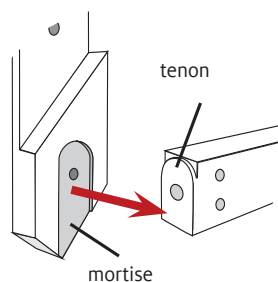

FIGURE 3: REAR LEG BRACE AND HEIGHT EXTENDER BLOCK
4. Attach the LO and RO height extender blocks to the rear leg brace by inserting the tenon of the brace into the mortise of the height extender blocks (Figure 3). Secure the height extender blocks with hardware from Step 3: insert a 1/4-20 x 3" Phillips truss head machine screw through the bottom hole of the height extender block and thread it into a barrel nut inserted into the rear leg brace. Hold the barrel nut in position with a slotted screwdriver. Repeat for the other height extender block. Set the rear leg brace and attached height extender blocks at the rear of the loom. You may want to elevate the inside loom legs on books or wood blocks to keep the loom level.